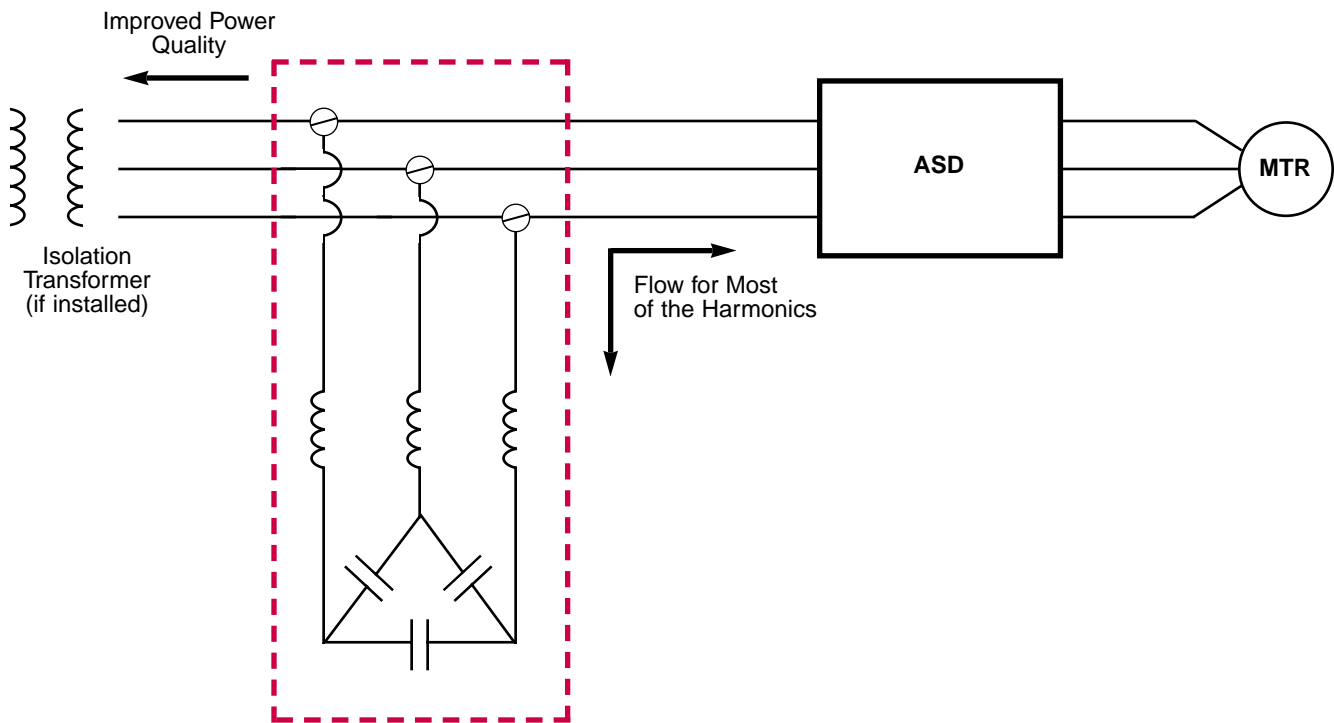

Figure 5 — **Caltrap™** Brand Harmonic Filter
Harmonics can be “trapped” by the application of a Myron Zucker, Inc. tuned filter trap. The trap is an inductor-capacitor (LC) filter which provides a low-impedance path for the harmonic currents. It “traps” the harmonics between itself and the harmonic source. As in correcting power factor problems at the source with capacitors, Myron Zucker, Inc. also recommends correcting harmonics problems at the source by using traps. For that reason, Myron Zucker, Inc. manufactures **Caltrap™** brand harmonic filters from 10 to 100 KVAR, commonly tuned to the 5th harmonic, although other points are available. Myron Zucker, Inc. can also provide **Caltrap™** brand harmonic filters with an integral line reactor to further isolate harmonics and provide other line reactor benefits such as reduced voltage notching from ASDs. Typical installations are shown in Figures 5 and 6 below.